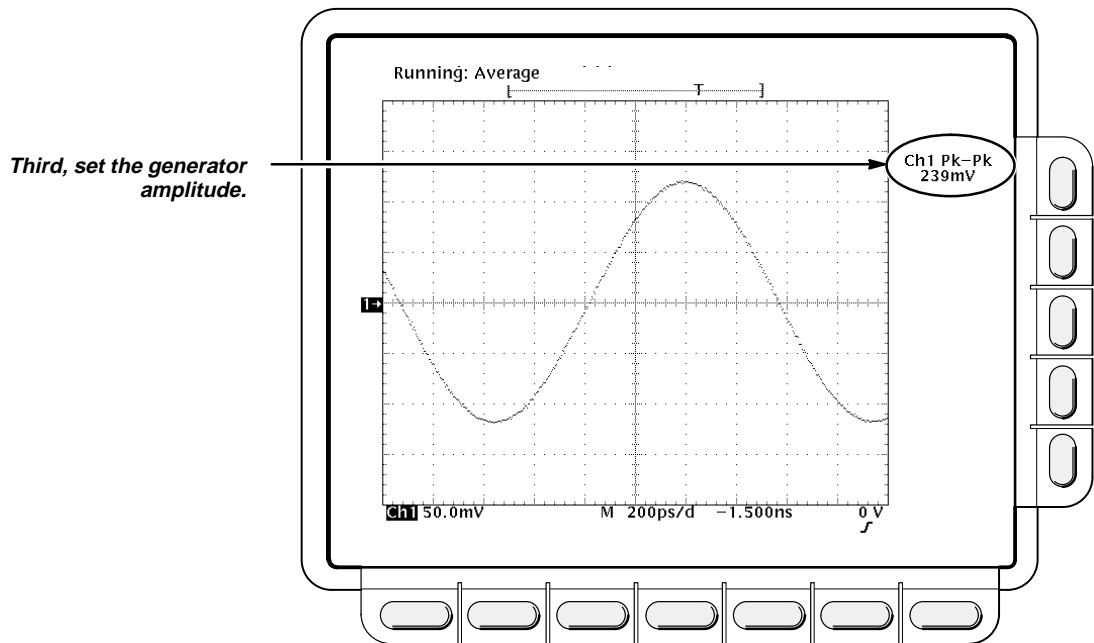

Figure 1-25: Trigger Delay Jitter Level Setting
- Adjust the generator amplitude for an **Pk-Pk** readout of 239 mV. See Figure 1-25.